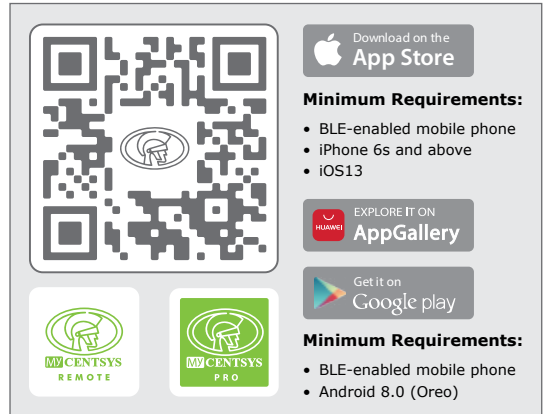

FIGURE 97
1. Scan the QR Code in Figure 97.